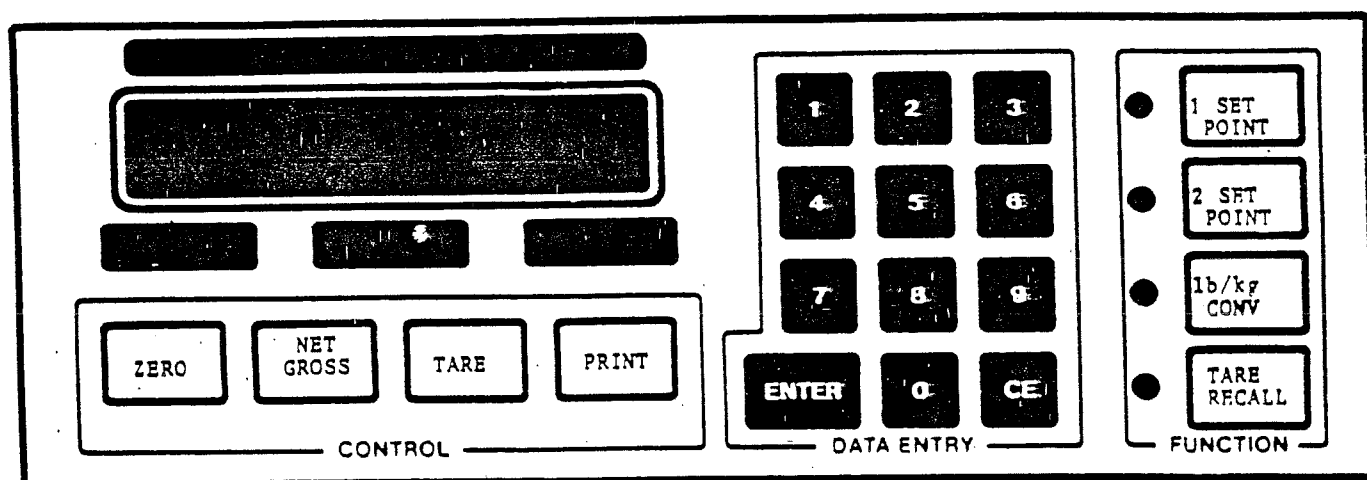

FIGURE 1.4
- C.2 Two (2) setpoints (Figure 1.4, 1.5, Section 7)
- C.3 Lb/Kg Conversion (Figure 1.4, Section 7)
- C.4 Tare Recall (Figure 1.4, 1.5, Section 7)
The standard unit is sent with inserts as shown in Figure 1.4. If the function keys are reprogrammed (see Sections 7.1 - 7.5) , the additional inserts are found with this manual.